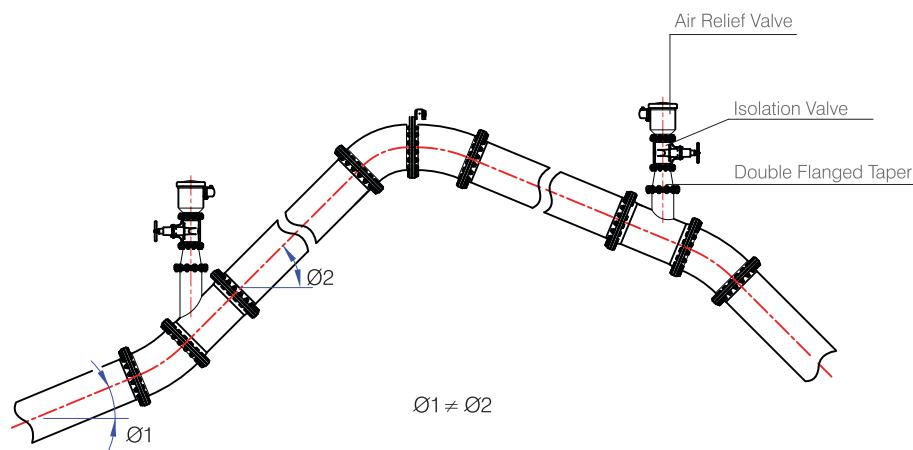

Figure 13: Placing air relief valve at locations where slope of the pipeline profile changes
- Air relief valves should be installed at locations where slope of the pipeline profile changes (Figure 13)